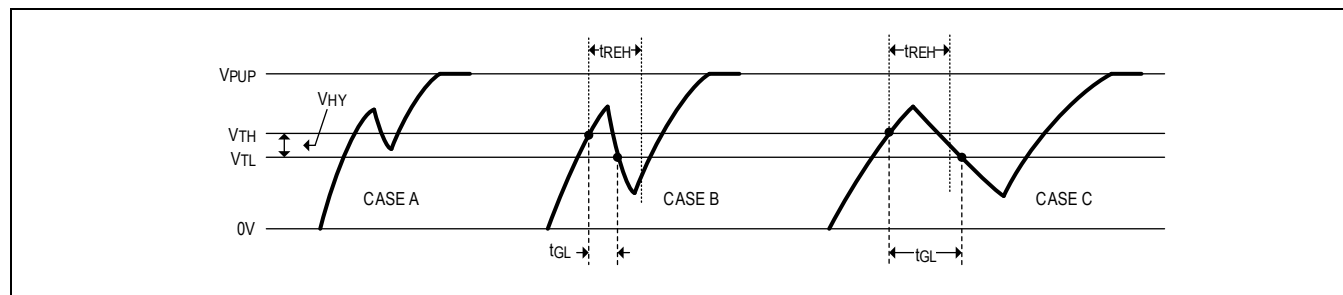

Figure 8. Noise Suppression Scheme
- On the low-to-high transition, if the line rises above V_{TH} but does not go below V_{TL} , the glitch is filtered (Figure 8, Case A).
- The rising edge hold-off delay (standard speed, nominally $1\mu\text{s}$), t_{REH} , filters glitches that go below V_{TL} before t_{REH} expires (Figure 8, Case B). Effectively, the device does not see the initial rise, and the t_{REH} delay resets when the line goes below V_{TL} .
- If the line goes below V_{TL} after t_{REH} expires, the glitch is not filtered and is taken as the beginning of a new time slot (Figure 8, Case C).